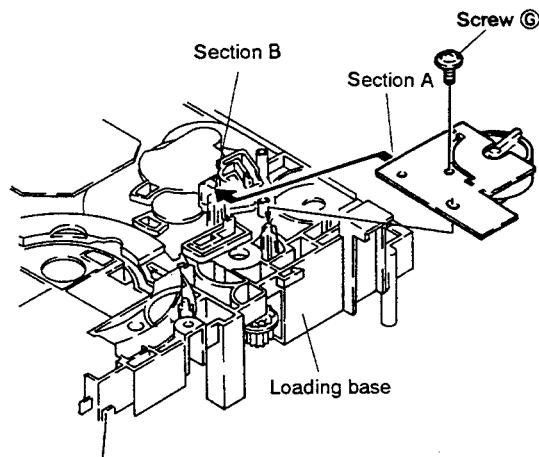

Fig. 2-10
(3) As shown in Fig. 2-10, after turning over the loading base, insert section A into the section B as the arrow shows, and fix with the screw ⑥.